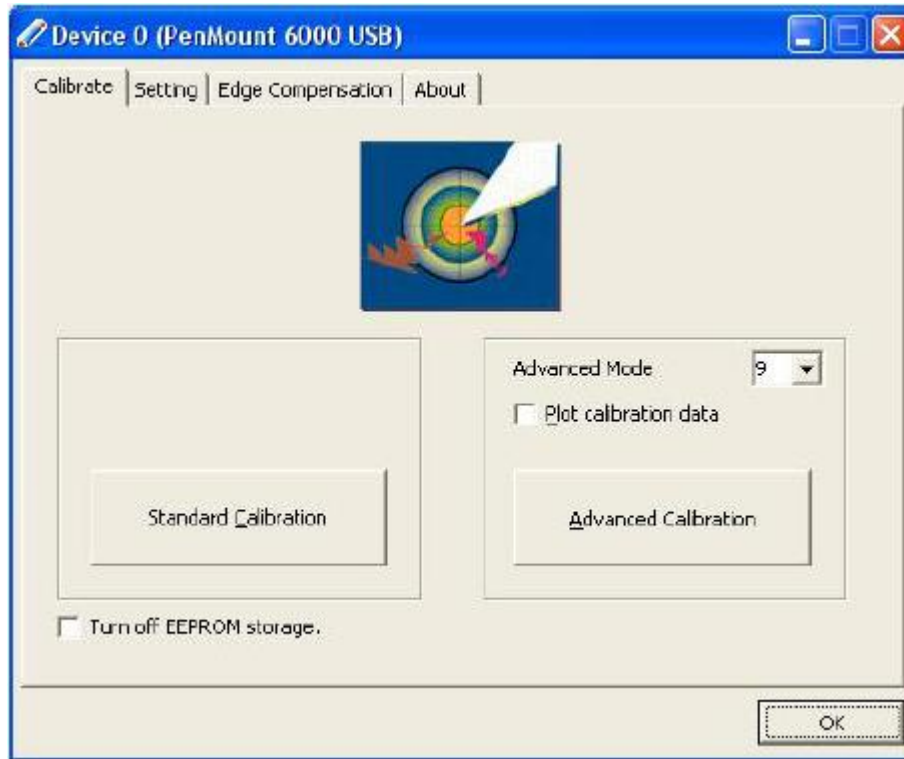

Figure 5-9: Calibration Initiation Screen
Step 8: The calibration initiation screen in **Figure 5-9** appears.
Step 9: Select the Standard Calibration button as shown in **Figure 5-9**.